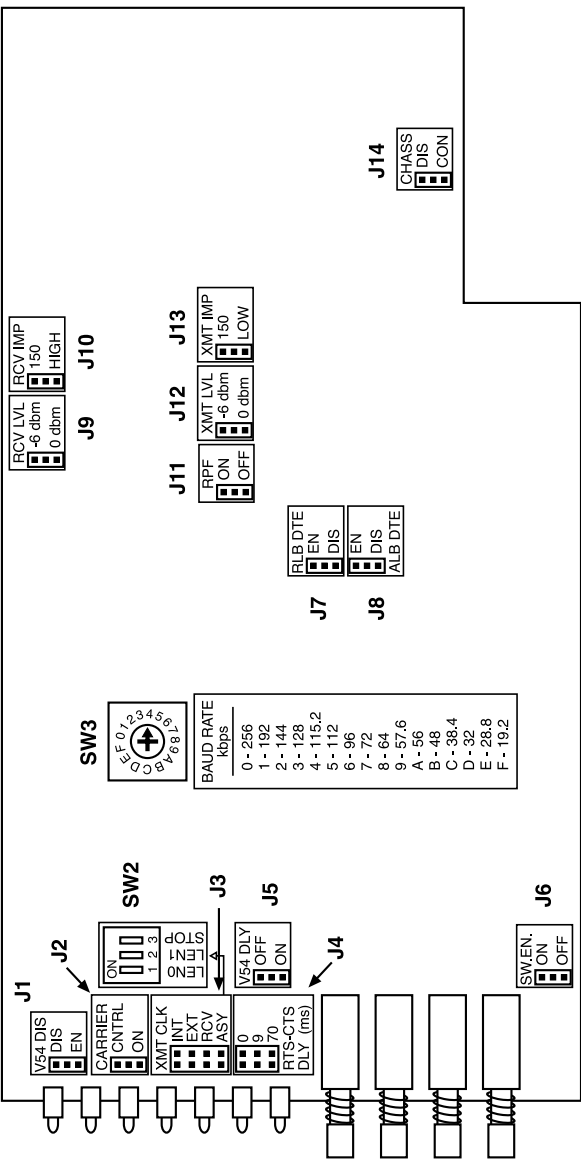

Figure 3-1. Layout of the 256-kbps Line Driver circuit board.
V.54 loops are activated manually with the front-panel buttons, or through the DTE interface. The buttons and the DTE interface can be enabled or disabled separately by jumpers J7 and J8 (shown in Figure 3-1 and described in Table 3-1).
Before attaching anything to the 256-kbps Line Driver standalone or rackmount card version, determine which data rate you’re going to use, what the system’s clock source should be, and how you want to set all of the other user-configurable options on the line driver. (Refer to Table 3-1 on the next two pages for a list of all of these options; the SW_n and J_n numbers in the table’s “Element” column correspond to the locations with the same numbers in Figure 3-1.)
3. Identify the control(s) (refer to Figure 3-1).